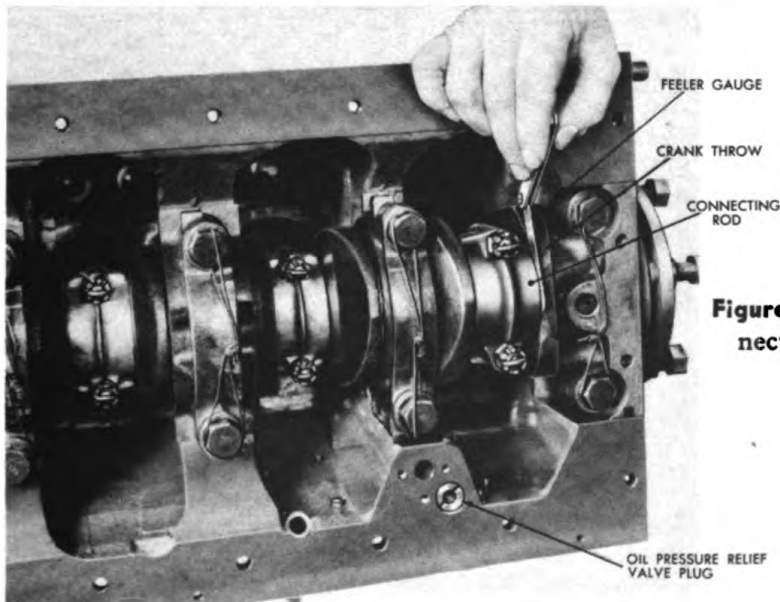

Figure 159. Checking Connecting Rod Side Play.
- b. Check the connecting rod side clearance by inserting a feeler gauge between the bearing and crankshaft. Figure 159. The clearance should be .004" to .009". If there is no side play, the piston and rod must be removed and checked as follows: